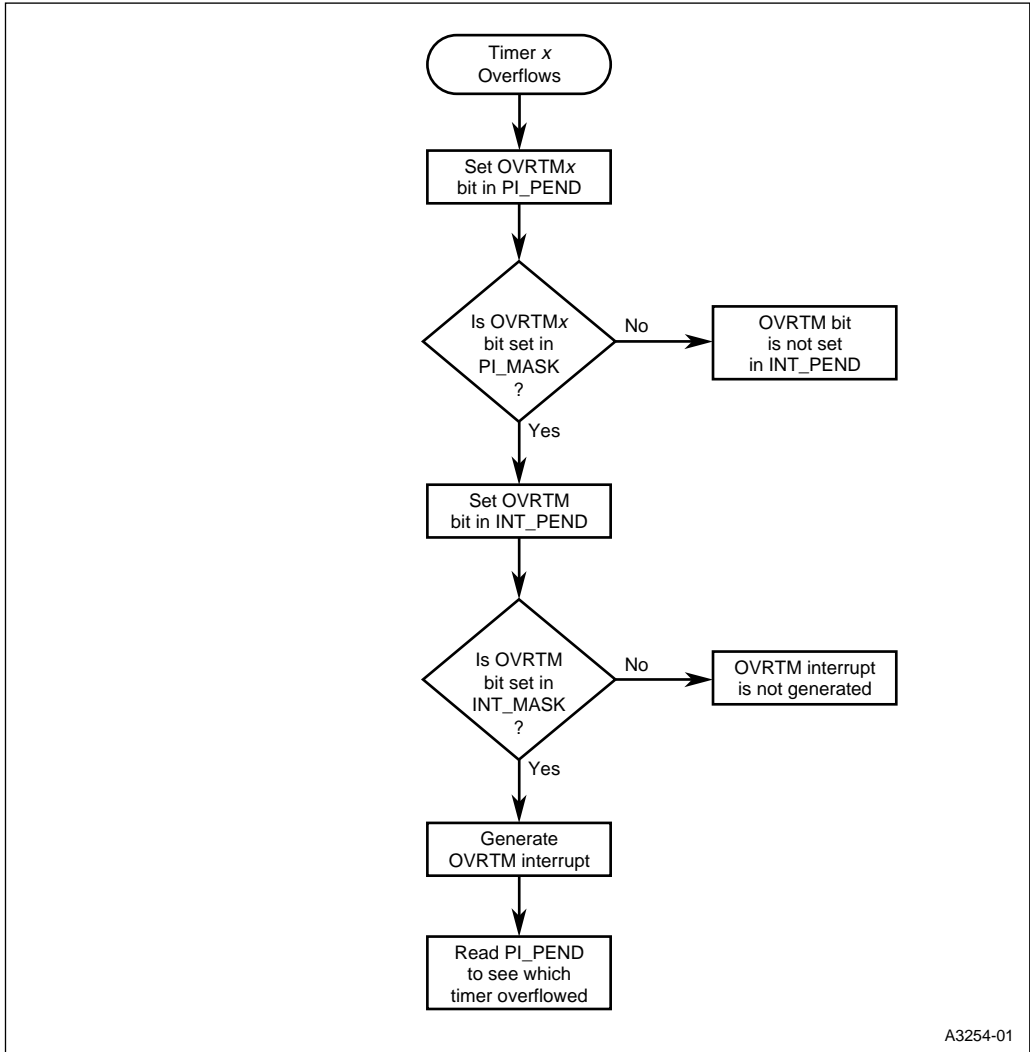

Figure 5-3. Flow Diagram for the OVRMx Interrupt
The PI (MD), OVRTM (M_x), and SPI (MH) interrupts have multiple sources (see Table 5-3 on page 5-5). An individual source will generate the interrupt only if software enables both the interrupt source and multiplexed interrupt. To enable the multiplexed interrupt, set the appropriate bit in the interrupt mask register (Figures 5-7 and 5-8). To enable an interrupt source, set the appropriate bit in the PI_MASK register (Figure 5-9 on page 5-17). Figure 5-3 shows the flow for the timer interrupt.